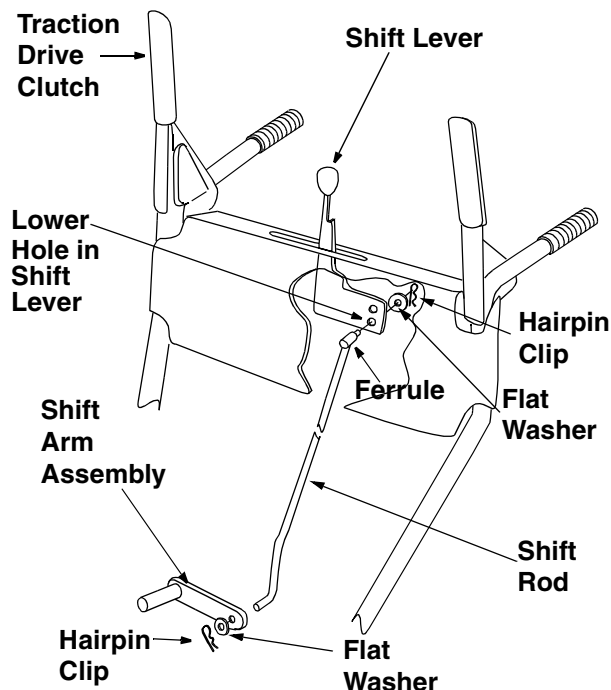

Figure 15
2. Place the bent end of the shift rod into the hole in the shift arm assembly. See Figure 15. Secure with flat washer and hairpin clip.
If necessary, loosen the hex jam nut and thread the cable in (for less slack) or out (for more slack) as necessary. Refer to Figure 15. Recheck the adjustment. Tighten the hex jam nut against the cable when correct adjustment is reached.